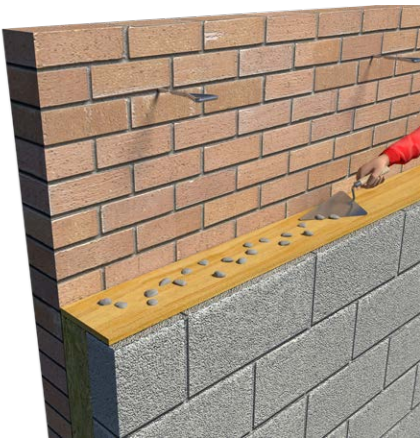

Figure 1
3. Build up a complete section of the leading leaf to one course above the next row of wall ties spaced at a maximum of 900mm horizontally (Figure 1). Ensure that all mortar joints are properly filled, particularly the perpend.